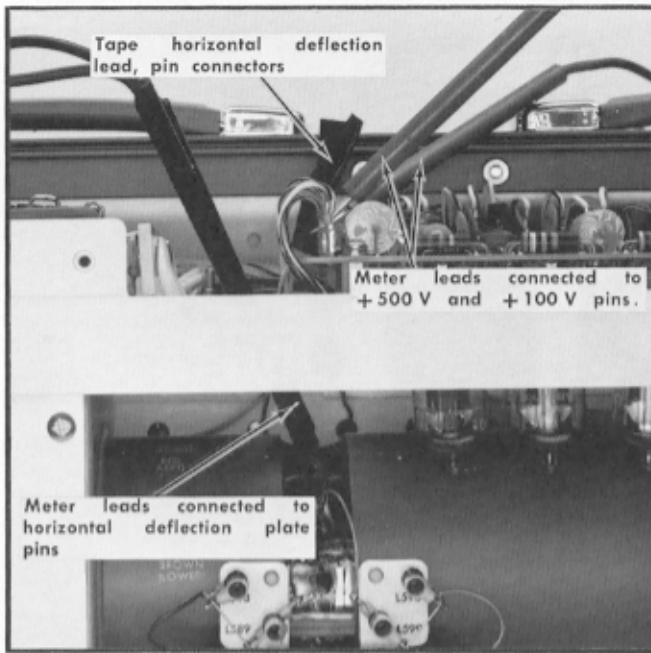

Fig. 6-47. Measuring CRT beam current.
6. Connect the right horizontal deflection plate (CRT pin) through a microammeter to the 500 volt supply. The 500 V terminal on the circuit board assembly is convenient. See Fig. 6-47.